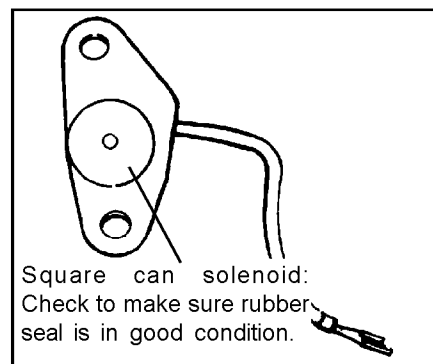

Figure 15
Square can solenoid: Make sure the rubber seal is in good condition and has no nicks or cuts (**See Fig. 15**). If the seal is damaged, you will have to replace the solenoid. If the seal leaks the transmission will be in passing gear all the time. Install the solenoid into position, **DO NOT** use the metal gasket supplied in the kit. Install the two (2) 1/4-20 bolts **FINGER TIGHT**. Remove the pan bolt you used to hold the plate and gasket in place.